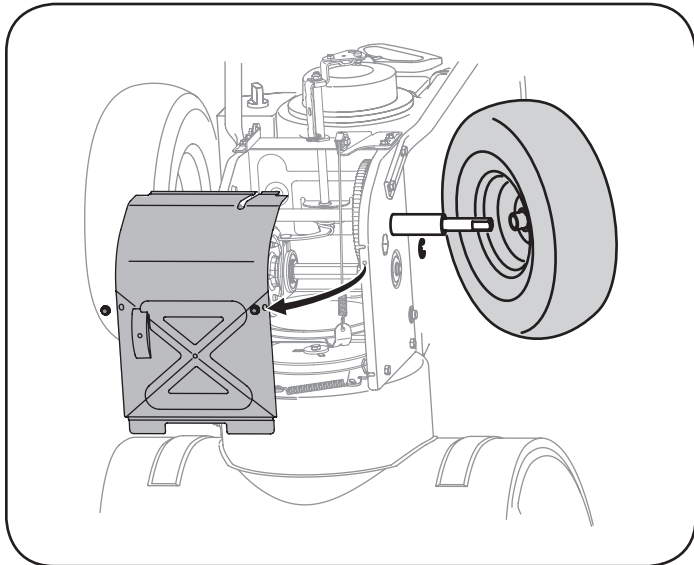

Figure 72
- Remove the right-hand wheel by removing the screw and bell washer which secure it to the axle. See Figure 72.